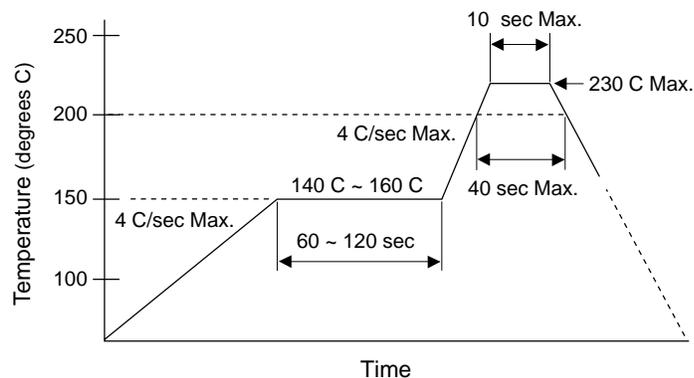

Figure 8. Temperature Profile for the Top Surface
- The temperature profile at the top surface of ZHX2010, shown in Figure 8, is recommended.